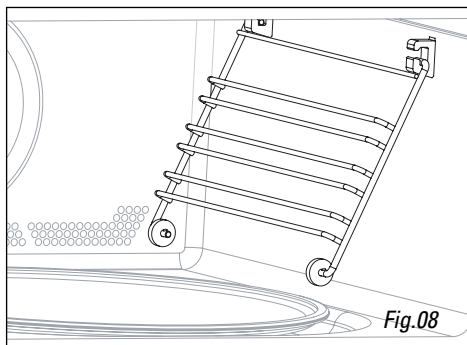

Fig.08
- **The side grills (Fig.08):** 2 shelves with hooks allow you to use the accessories on 3 levels. The 3 insertion levels are available according to the type of cooking and type of food (Fig.08/09).